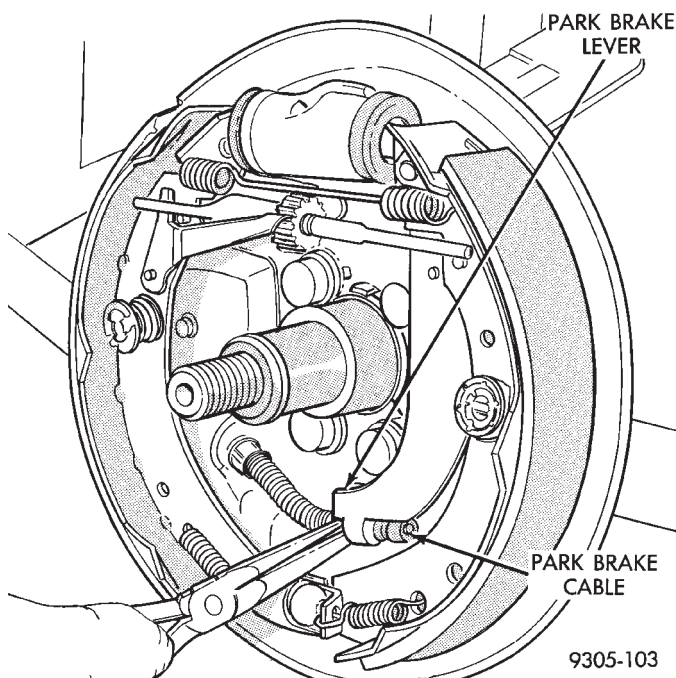
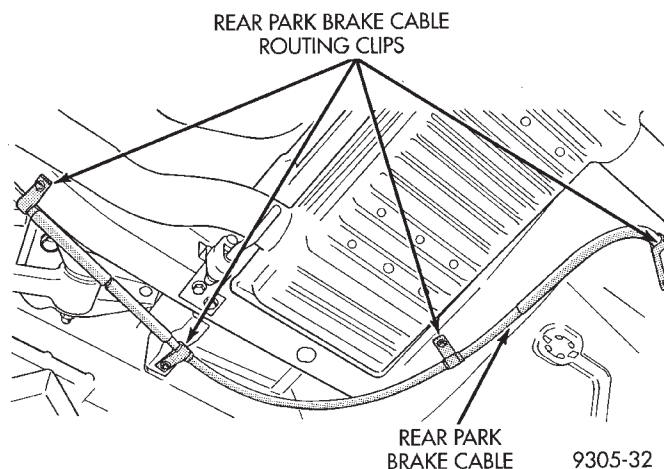

Fig. 128 Park Brake Cable Attachment To Park Brake Lever
Fig. 130 Park Brake Cable Routing Clips
(6) Disconnect park brake cable from park brake lever on rear brake assembly (Fig. 128).
(8) Remove the 4 routing clips attaching rear park brake cable to floor pan and frame of vehicle (Fig. 130).
(9) Lower vehicle.
(10) Remove shift knob from floor shifter. Shift knob is removed by removing 3/32 in. allen head set screw located on drivers side of shift knob and pulling straight up on shift knob.
(11) Remove upper center console cover from vehicle. Refer to group 23 Body in this service manual for required procedure to remove center console.
- (1) Raise vehicle.
- (2) Install parking brake cable into rear brake support plate. Be sure the park brake retainers are expanded around mounting hole in brake support plate. Connect parking brake cable to park brake lever on trailing brake shoe (Fig. 128).
- (3) Install parking brake cable into cable mounting hole in floor pan of vehicle. Be sure that cable retainers are expanded around mounting hole in floor pan.
- (4) Install the 4 routing clips attaching rear park brake cable to floor pan and frame of vehicle (Fig. 130).